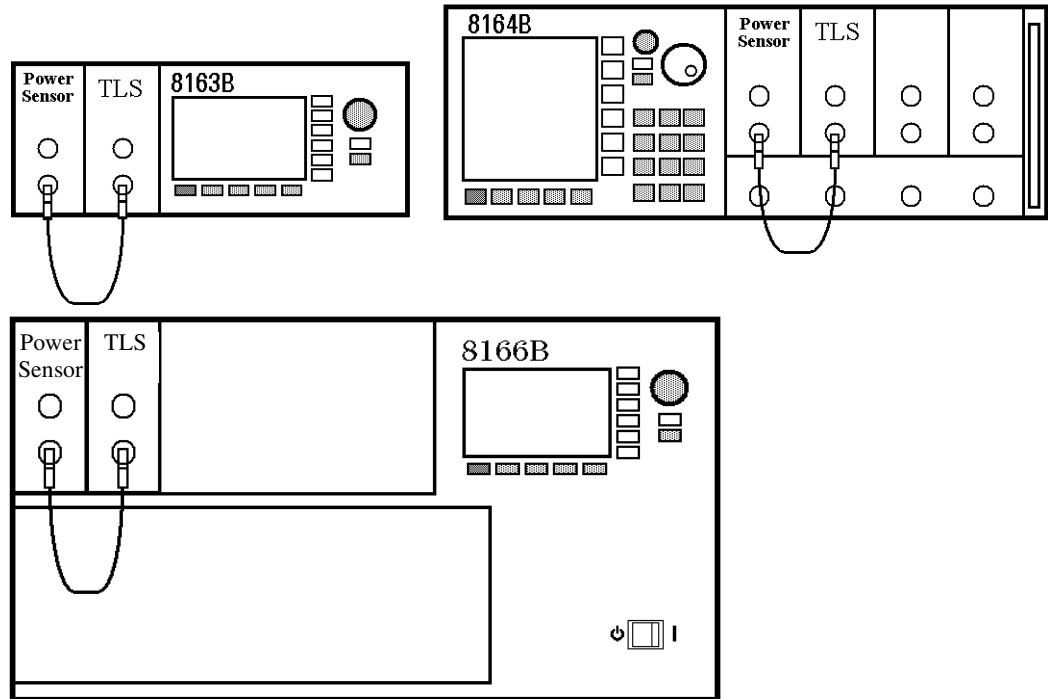

Figure 25 Connecting the Instrument for the Sample Session
- 3** Connect the output of the Laser Source to the input of the Power Sensor module, as shown in Figure 25. You must connect the correct fiber end connector for your Tunable Laser module: